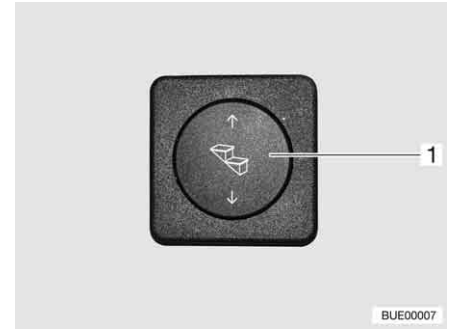

Fig. 14 Operating button for entrance step
*Extending:* ■ Press the rocker button (Fig. 14,1) down and hold it pressed (at least 3 seconds) until the entrance step has extended completely.
*Retracting:* ■ Press the rocker button (Fig. 14,1) up until the entrance step has retracted completely.